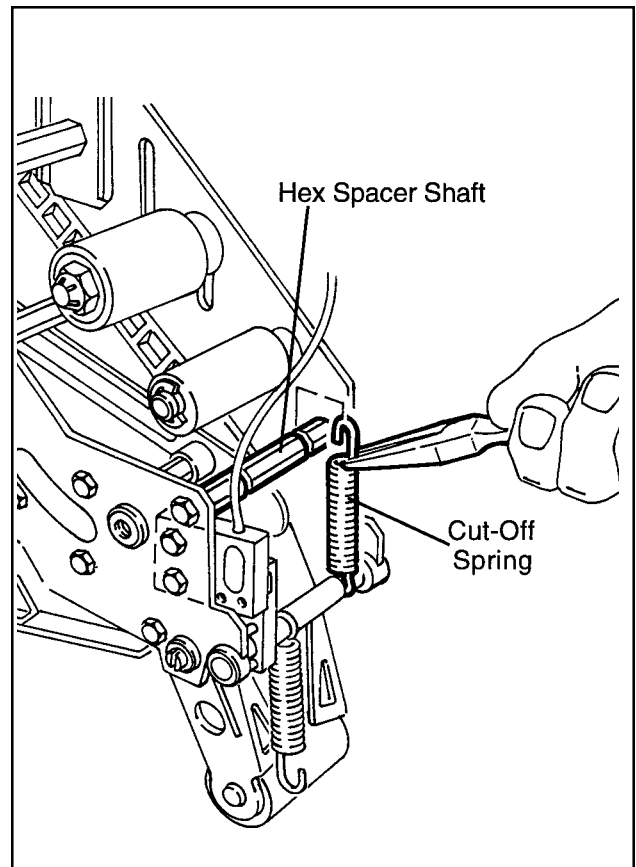

Figure 2-8
9. Use a needle nose pliers and hook the cut-off spring furthest from the sensor to the hex spacer shaft as shown in Figure 2-8. **Be sure both spring loops are in shaft grooves.**